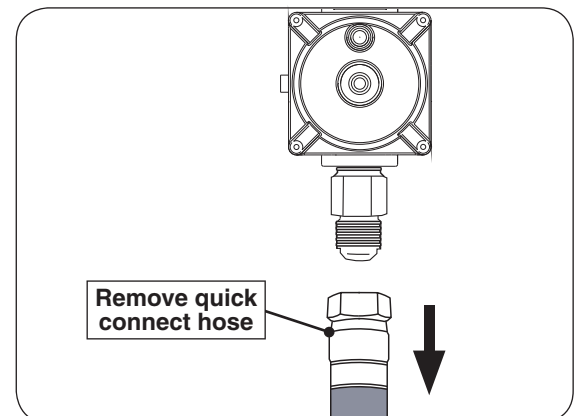

Fig. 5-2 Remove quick connect hose
3. Using two adjustable wrenches, remove the quick connect hose from the 1/2" flare adapter that is attached to the convertible regulator (Fig. 5-2).